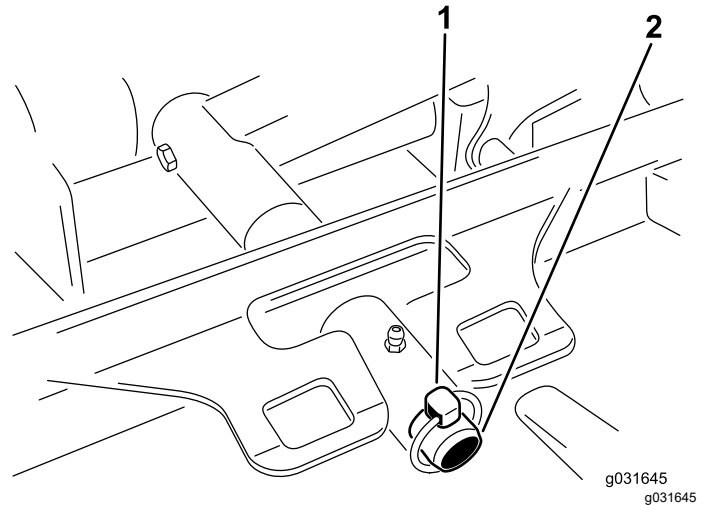

Figure 67
3. Remove the lynch pin or retaining nut securing the deck carrier frame to the lift-arm-pivot pin (Figure 67).
3. Slide the deck-carrier frame onto the lift-arm-pivot pin and secure it with the lynch pin or retaining nut (Figure 67).